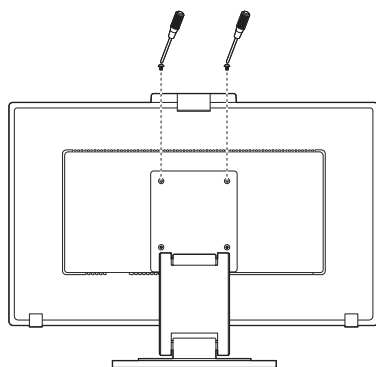

Figure S.3
5. Remove 2 top screws (**Figure S.3**).